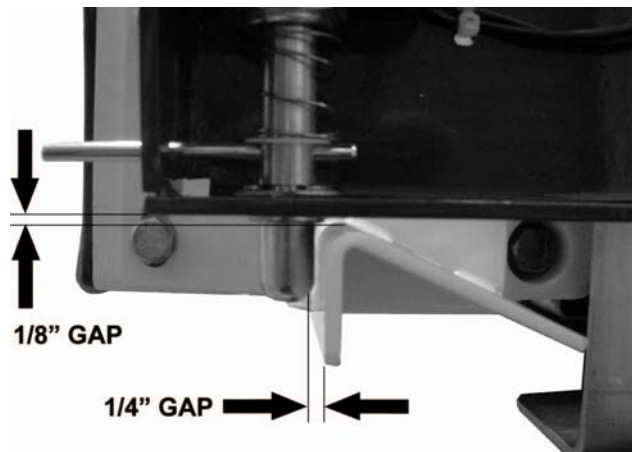

FIGURE 6: STRIKER PLATE/STOW-LOCK ADJUSTMENT
8. Refer to **Figure 6**. Push the platform into its stowed position. The plunger should drop and lock the platform in place.
9. Adjust Stow-Lock and Striker Plate to gaps shown in **Figure 6**. Set torque wrench to 32-34 LB-FT and tighten screws holding the Stow-Lock Assembly (P/N 44971) in place. Set torque wrench to 18-20 LB-FT and tighten screws holding the Striker Plate (P/N 44963) in place.
24. Test Stow-Lock to ensure it is working properly. Stow-Lock plunger should raise and clear the Striker Plate when the DEPLOY button is pressed. Refer to **Figure 6** for proper gap adjustments.